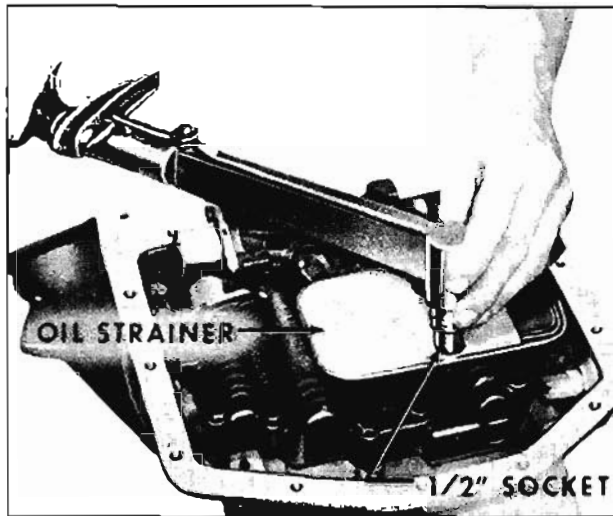

Fig. 6-472 Attaching Oil Strainer
16. Torque oil strainer retaining bolt 8 to 12 ft. lbs. (Fig. 6-472)